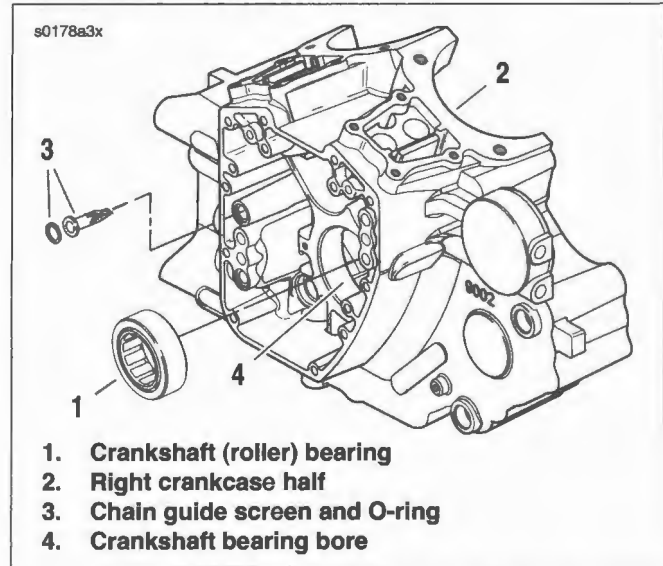

Figure 3-139. Right Crankshaft (Roller) Bearing
See Figure 3-139. Remove, clean and reinstall screen (3). Replace screen O-ring with each removal.